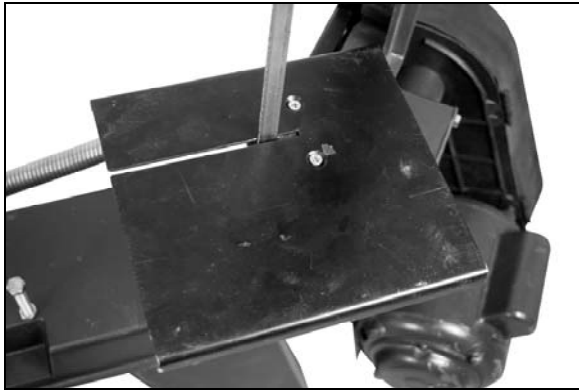

Figure 18
4. Assemble the vertical table (C) to the guide bracket using the two screws (D) as shown in Fig.18.